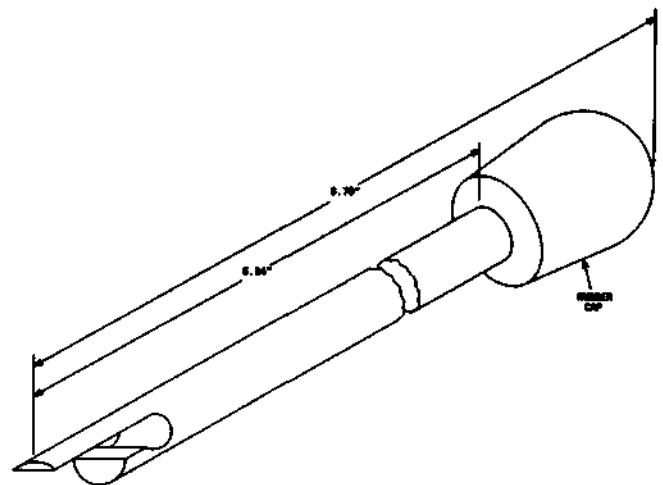

Fig. 21—964A Insertion Tool
2.23 **964A:** The 964A insertion tool (Fig. 21) is used for inserting flag-type spade lug receptables such as AMP 250 series FASTON onto 221B and C terminals.